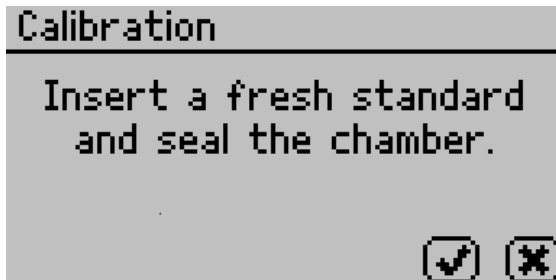

Figure 50 Calibration instruction dialog
5. A prompt will appear to insert a fresh standard and seal the chamber (Figure 50).